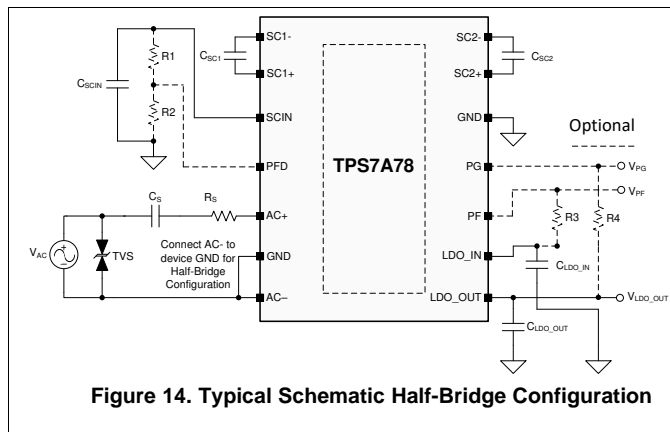
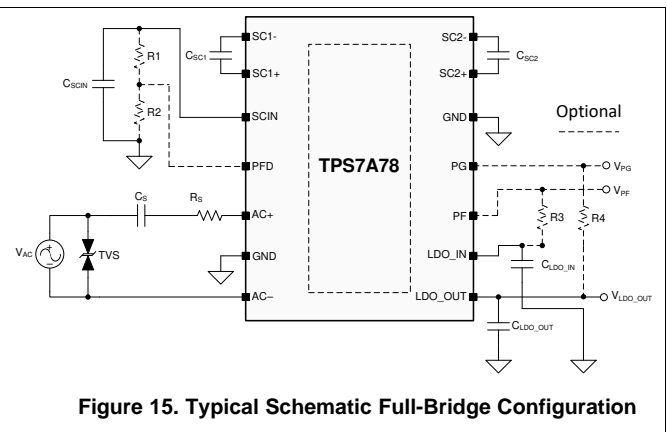

Figure 14. Typical Schematic Half-Bridge Configuration
Figure 15. Typical Schematic Full-Bridge Configuration
7.3.2 Full-Bridge (FB) and Half-Bridge (HB) Configurations
The TPS7A78 can be configured to operate either in full-bridge (FB) or half-bridge (HB) configurations. HB configuration ties the AC input pin without the series C_S and R_S components to the device GND pins. See Figure 14 and Figure 15 for the HB and FB configurations.
The TPS7A78 can monitor the rectified DC voltage at the SCIN pin to provide the application with an early warning via the power-fail (PF) pin if the main power fails. An external resistor-divider network connected to the VSCIN pin provides the input to the power-fail detect (PFD) analog input pin to monitor for an AC line supply failure. When the AC supply falls below its minimum level programmed by the resistor divider R_1 and R_2 , as illustrated in Figure 14 and in Figure 15, the PF output is pulled low. If this feature is not used, omit R_1 and R_2 and connect PFD and PF pins to the device GND pins reference.
The TPS7A78 is a non-isolated smart AC/DC linear-voltage regulator capable of providing a maximum 120-mA load current; see Figure 14 and Figure 15 for the HB and FB configurations, respectively.
All the capacitors illustrated in Figure 14 or Figure 15 are required for proper operation. The value of C_S required to support the application current is obtained from the Calculating the Cap-Drop Capacitor \$C_S\$ section. The chosen C_S capacitor must tolerate the peak V_{AC} supply voltage of the application and meet the required safety requirements.